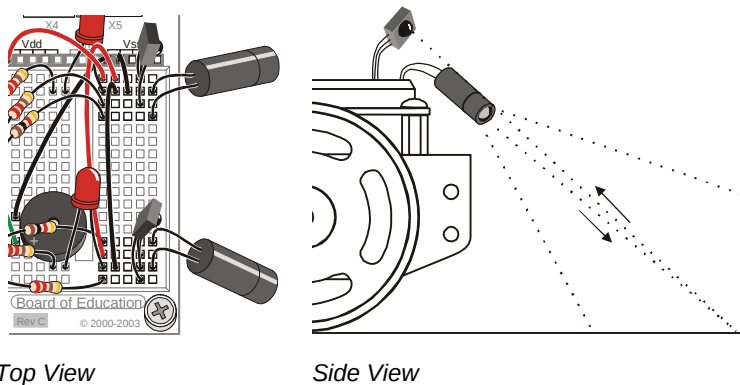

Figure 8-8
- ✓ Point your IR object detectors downward and outward as shown in Figure 8-8 (Figure 7-11 from page 242 repeated here for convenience).